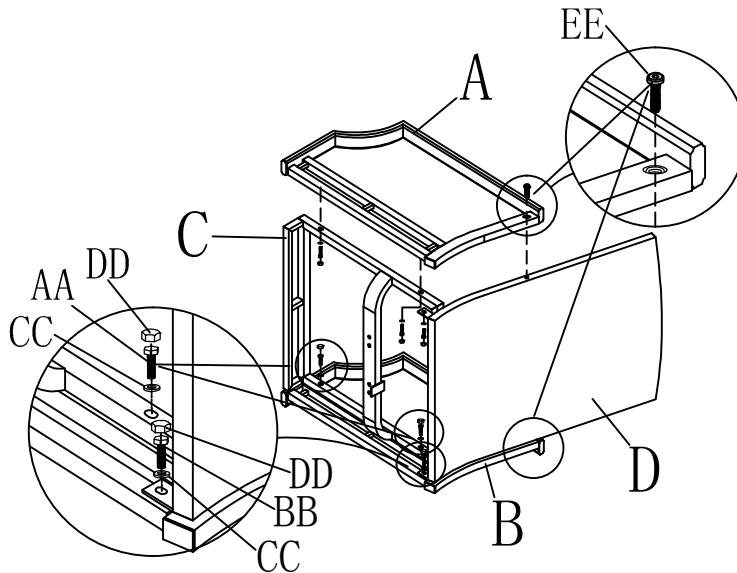

Figure 1
Step 1. Attach the right arm panel (B) to seat panel (C) with bolts (AA) and washers (CC) by using wrench (MM), use the same method to attach left arm panel (A) to seat panel (C), then attach the back panel (D) to seat panel (C) with bolts (BB) and washers (CC) by using wrench (MM), cover the bolts with plastic caps (DD). Attach the back panel (D) to arm panel (A) (B) with bolts (EE) by using wrench (FF). See Figure 1.